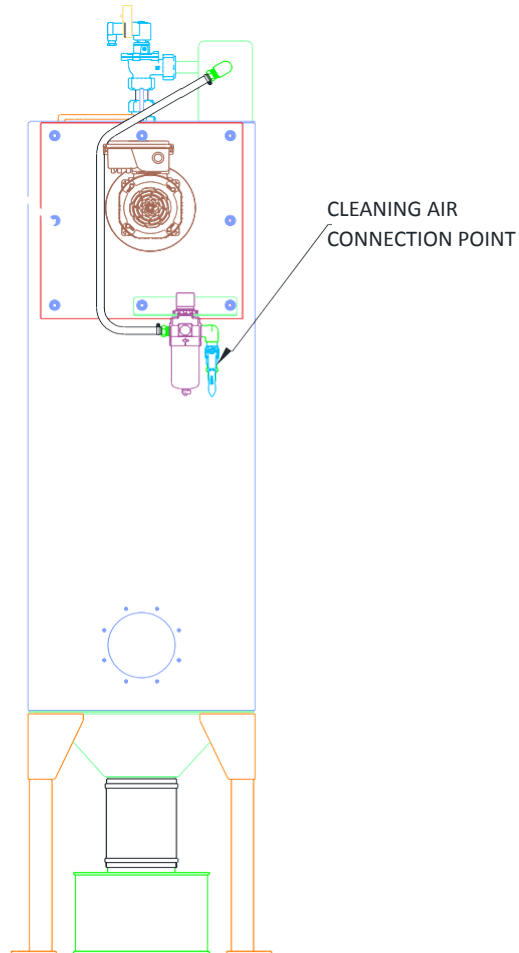

Figure 23
- 3.9.4 For the reverse pulse (RP) dust collector, the compressed air supply connection point is located on the pressure regulator located on the rear side of the duct collector. This air supply provides reverse air pulsing of the filter cartridge to keep the filter clean. Refer figure 23.